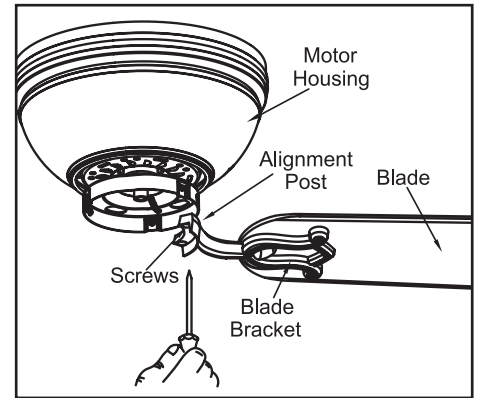

Figure 10
3. Fasten the blade assembly to the motor by inserting the alignment posts into the slot on the bottom of the motor and tightening the motor screws. Please note that the motor screws are pre-attached into the blade brackets (Figure 10).